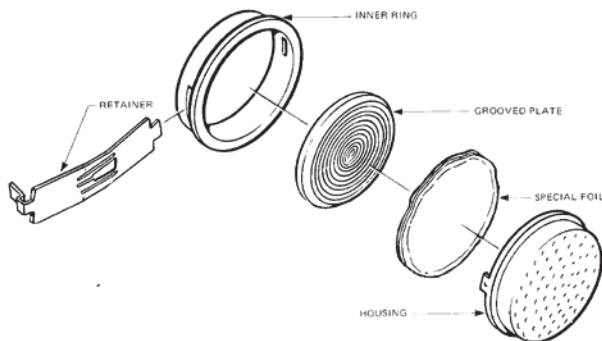

FIGURE 1-1 SERIES 600 TRANSDUCER
- An acoustical ultrasonic transducer (Figure 1-1)
The principal component in this system is the transducer (Figure 1.1), which acts as both loudspeaker and microphone. The transducer is designed to transmit the outgoing signal (like a loudspeaker) and then switch to become a microphone to receive the reflected signal (the echo).